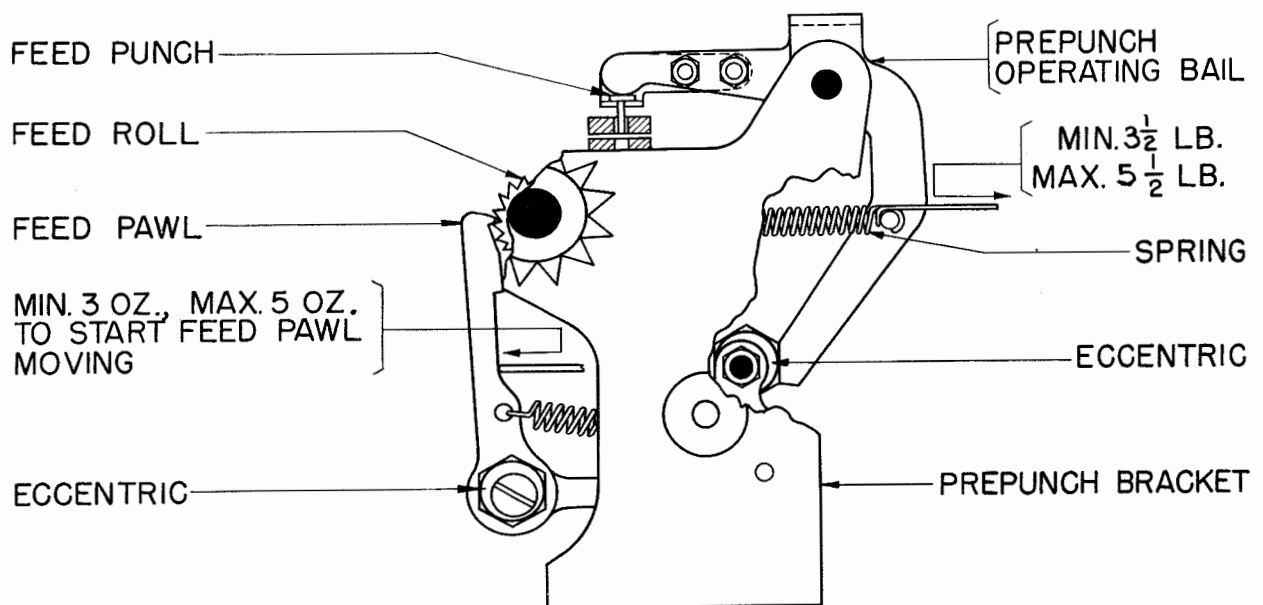

Figure 47
2.80 Prepunch Feed-pawl Eccentric (Preliminary Adjustment): The feed pawl shall rest in the bottom of the first notch below the horizontal center line of the feed roll with the punch-arm roller on the low part of its cam. See Figure 47.
from the feed roll. With the detent roller in engagement with the feed-roll star-wheel, rotate the receiving shaft until the feed pawl is in its uppermost position. Hold the detent roller away from the star wheel and continue to rotate the receiving shaft until the feed pawl is in its lowermost position. The feed roll shall have rotated one full step. See Figure 47.
2.87 Prepunch Operating-bail Spring: It shall require a pull as indicated in Figure 47 to start the prepunch arm moving with the punch-arm roller on the low part of its cam and the prepunch operating-bail lower-extension held against the operating-bail eccentric.
To Gauge: Hook the pull end of the scale over the spring post on the bail and pull horizontally in line with the spring. See Figure 47.
2.89 Prepunch Feed-pawl Spring: It shall require a pull as indicated in Figure 47 to start the feed pawl moving away from the feed-roll ratchet with the main shaft in the stop position.